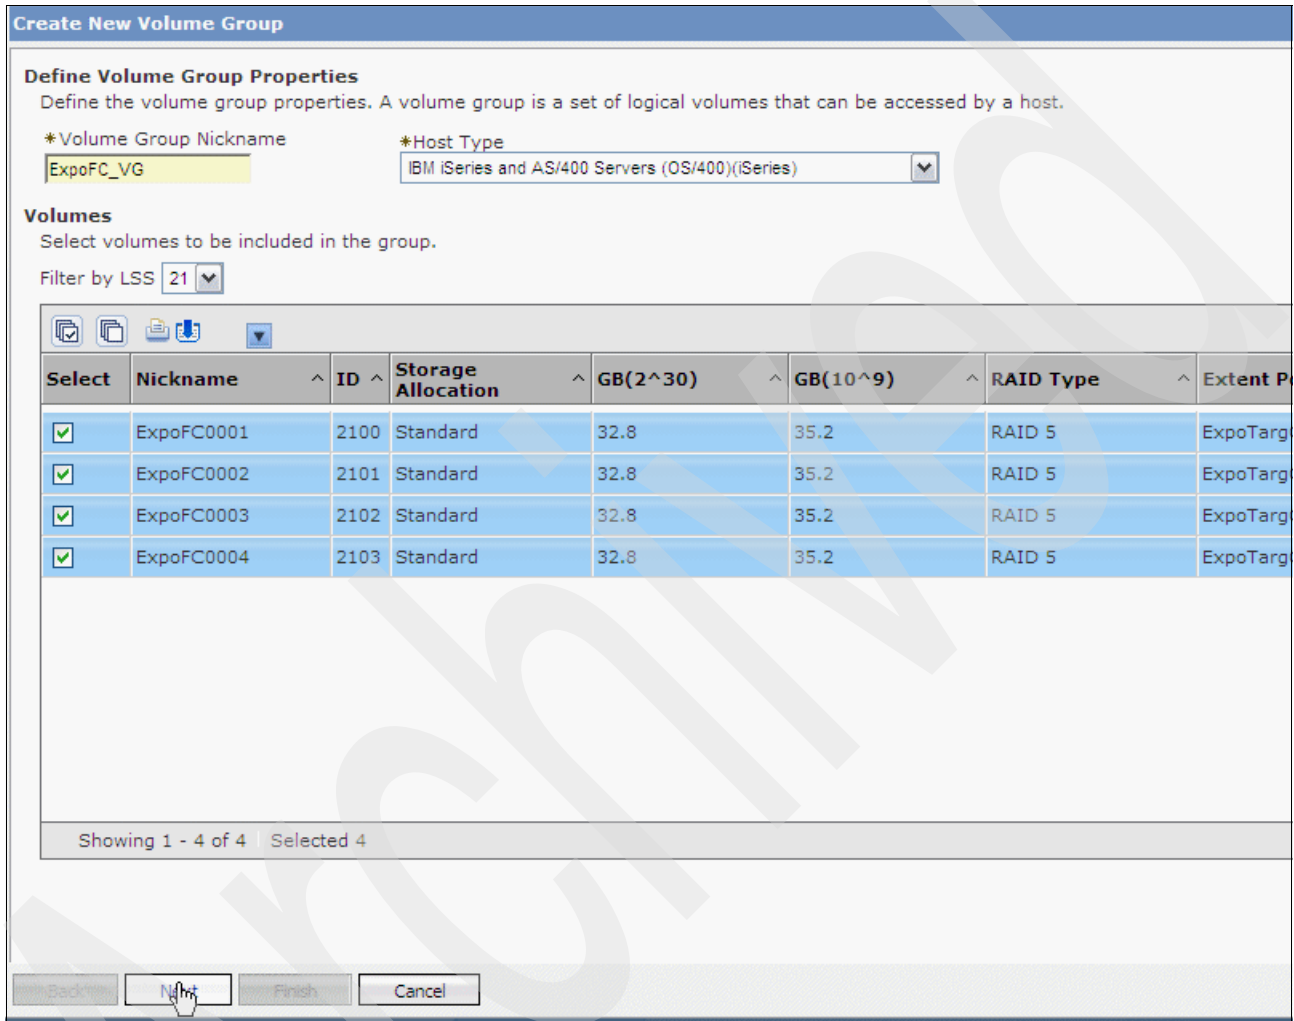

Figure 10-18 Define volume group properties
- The Create New Volume Group panel displays. Accept the default volume group nickname from **Volume Group Nickname** or enter a different nickname if desired. In our example, we use *ExpoFC\_VG* for our volume group nickname. Select **IBM iSeries and AS/400 Servers (OS/400)(iSeries)** for the **Host Type**, and select the volumes to be included in the group. In our example, we choose a filter for LSS 0x21 that we have defined before in step 4 on page 358). (see Figure 10-18).